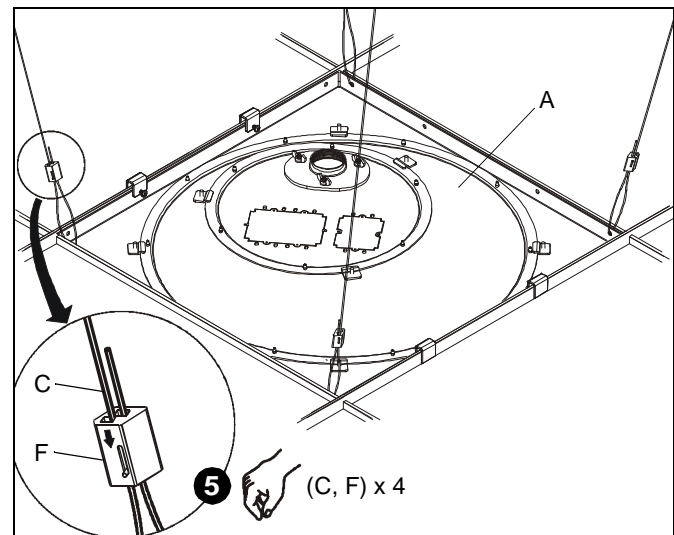

Figure 10
**CAUTION:** Failure to properly tension cables (C) may result in damage to ceiling tile framework!
- Thread each cable (C) completely through cable lock (F), corresponding hole(s) in corner of CMS445 assembly (A), and completely through opposite side of cable lock (F) (See Figure 10). Adjust cable tension until CMS445 assembly (A) is supported *entirely* and *evenly* by all four support cables, but not so tight as to distort ceiling tile framework.
**NOTE:** Cables (C) can be threaded through either or both holes in corners of CMS445 assembly (A).
**NOTE:** Cable lock (F) will allow cable to enter from only one direction per side, indicated by arrows on lock. Depress spring loaded pins on cable lock (F) to release cable tension.